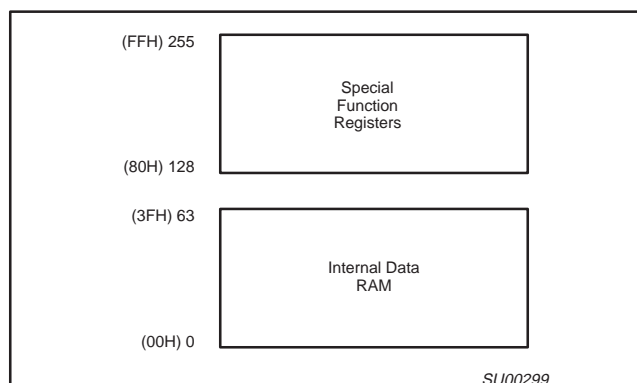

Figure 3. Memory Map
The central processing unit (CPU) manipulates operands in two address spaces as shown in Figure 3. The part's internal memory space consists of 2k bytes of program memory, and 64 bytes of data RAM overlapped with the 128-byte special function register area. The differences from the 80C51 are in RAM size (64 bytes vs. 128 bytes), in external RAM access (not available on the 83C751), in internal ROM size (2k bytes vs. 4k bytes), and in external program memory expansion (not available on the 83C751). The 128-byte special function register (SFR) space is accessed as on the 80C51 with some of the registers having been changed to reflect changes in the 83C751 peripheral functions. The stack may be located anywhere in internal RAM by loading the 8-bit stack pointer (SP). It